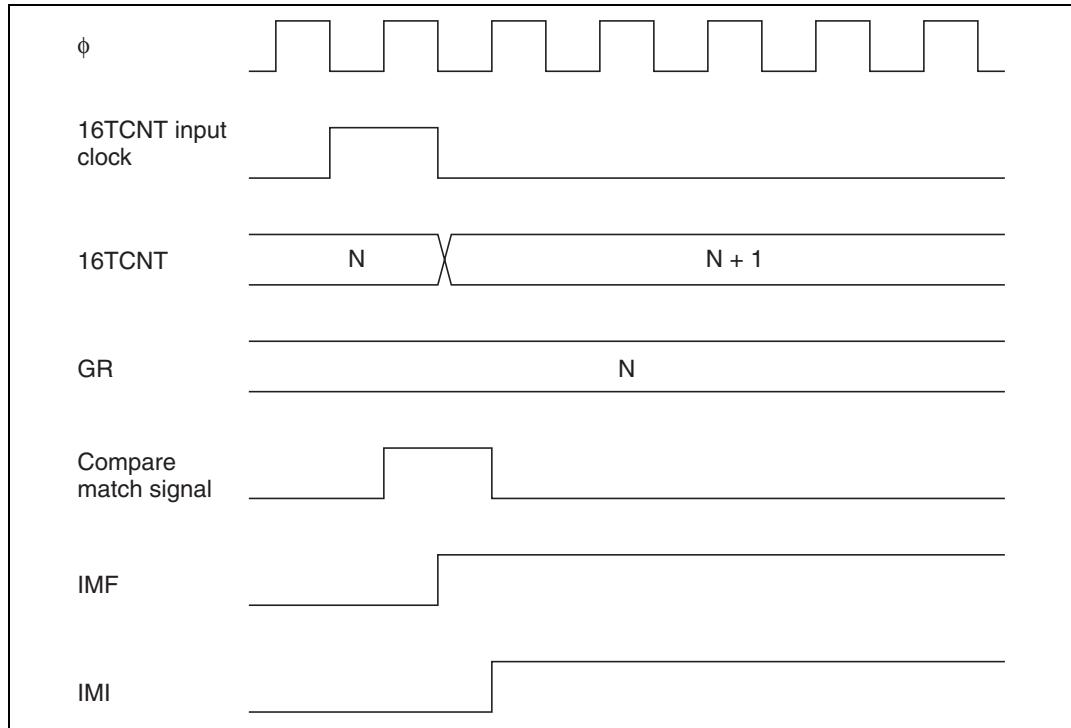

Figure 9.33 Timing of Setting of IMFA and IMF_B by Compare Match
Timing of Setting of IMFA and IMF_B at Compare Match: IMFA and IMF_B are set to 1 by a compare match signal generated when 16TCNT matches a general register (GR). The compare match signal is generated in the last state in which the values match (when 16TCNT is updated from the matching count to the next count). Therefore, when 16TCNT matches a general register, the compare match signal is not generated until the next 16TCNT clock input. Figure 9.33 shows the timing of the setting of IMFA and IMF_B.